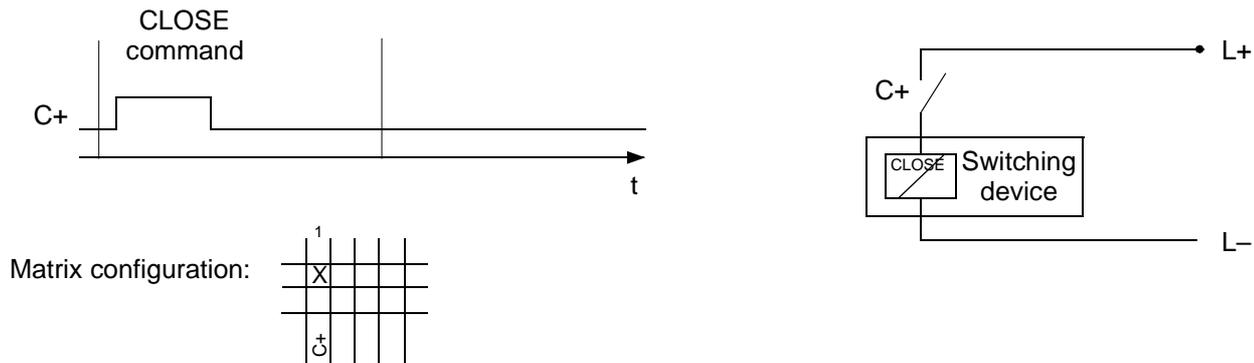

Figure 5-4 Single command with single contact
- ❑ Set for each device whether it should trip 1pole, 11/2pole or 2pole, with single or double point indication, with or without feedback (see Table 5-1 and Figure 5-4 to 5-9). Thus the necessary quantity of the information to be processed is calculated and the type of command is determined.
For Figures 5-4 through 5-9, the following abbreviations apply: